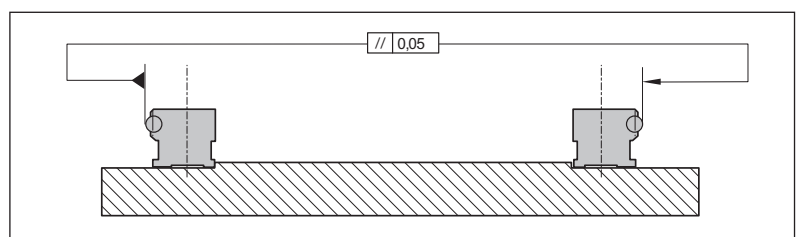

Fig. 77: Checking the parallelism of the guide rails
- ▶ Check the parallelism ➞ Fig. 77